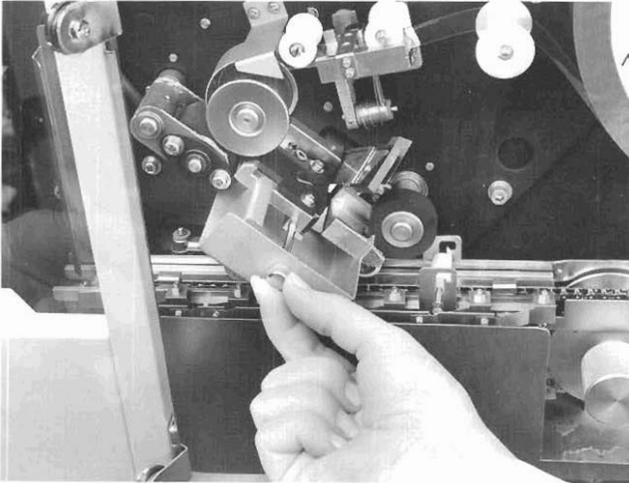

Figure 6-4
1. Turn the thumbscrew on the receiver tray counter-clockwise until the screw is completely free of the instrument (Figure 6-4).